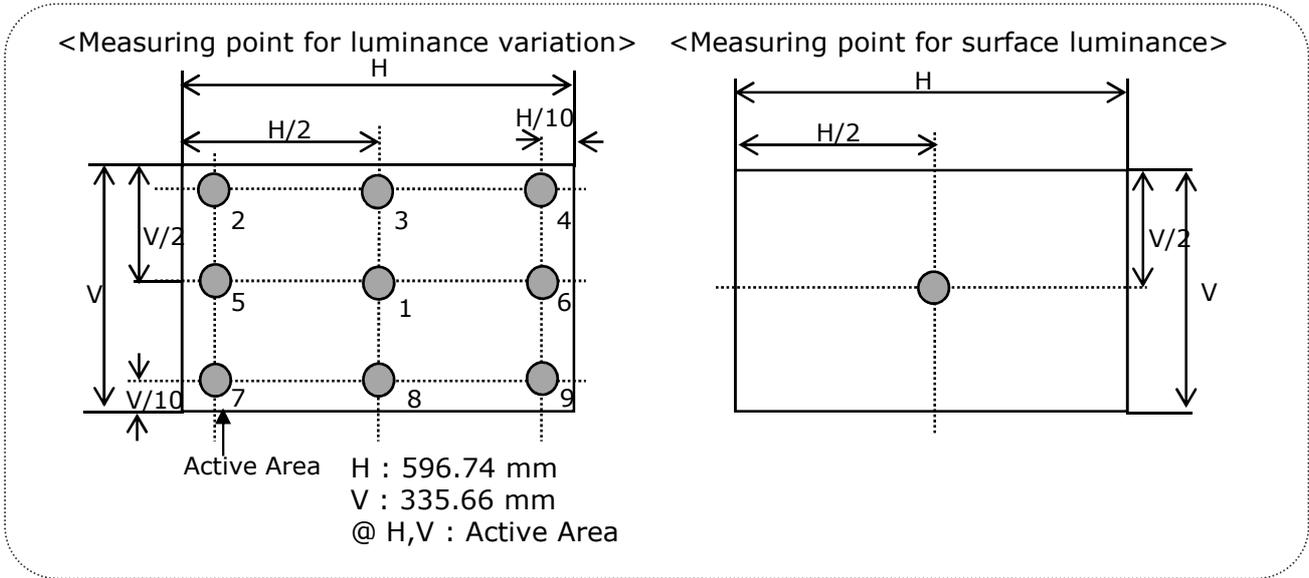

FIG. 5 Measure Point for Luminance
2. Surface luminance(L_{WH})is luminance value at 1 point across the LCD surface 50cm from the surface with all pixels displaying white. For more information see FIG 5.
Where L1 to L9 are the luminance with all pixels displaying white at 9 locations. For more information see FIG 5.
4. Response time is the time required for the display to transition from black to white (Rise Time, Tr_R) and from white to black (Decay Time, Tr_D). For additional information see FIG 5.